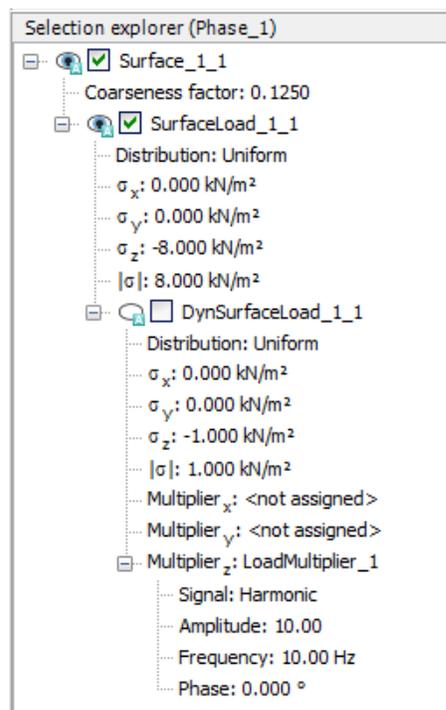

Figure 121: Applied load in the Phase_1
2. In the **Staged construction mode**, as displayed on Figure 121 (on page 150), activate the static component of the surface load. Do not activate the dynamic load.